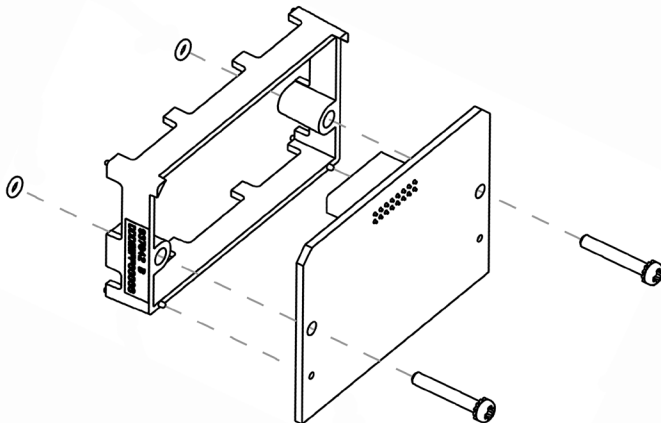

Figure 1. Accessory 11BE dongle kit.
2. Locate the Group G controller that is mounted on the inside of the door. Do not remove controller cover. Refer to Figures 1, 2, 3, and 4.